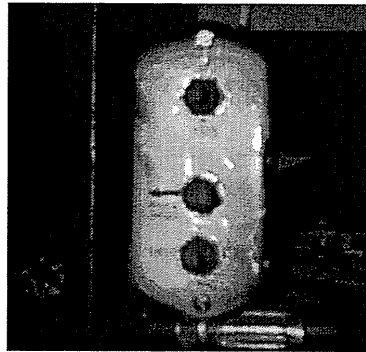

**Figure 6-2.** Liftgate control pendent
Figure 6-2 shows the liftgate control pendent. The first switch from the top is used to lift the liftgate up and down, the second switch is used to lock/unlock the liftgate, and the third switch is used to tilt up and down the lifting platform.
3. Motor controller off/enable switch: Only when this switch is on, the motors can be turned on (with the motor controller on indicator light/push button (#4 in the Figure 6-2)). It should be switched to the right position to turn on.
6. Linear slide off/enable switch: Only when this switch is on, the linear slide can be turned on (with the linear slide on indicator light/push button (#7 in the Figure 6-2)). It should be switched to the right position to turn on.